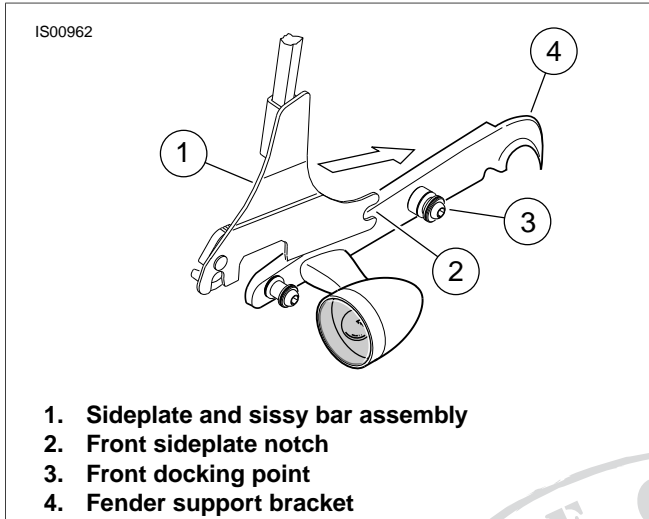

Figure 2. Place Sideplate Front Notches into Front Docking Points
1. See Figure 2. While standing behind the motorcycle, place the front sideplate notches (2) into the front docking points (3) as shown.